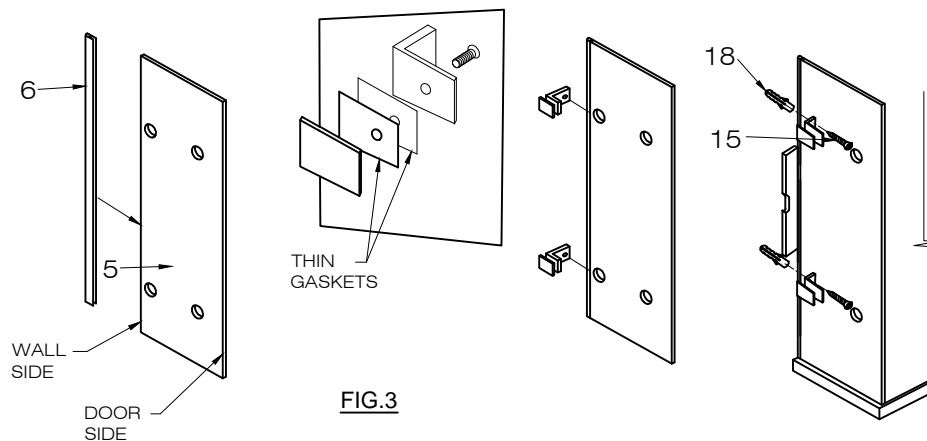

FIG.3
2. Install the seal strip (#6) to the wall side of the front glass panel (#4). [SEE FIG.3]